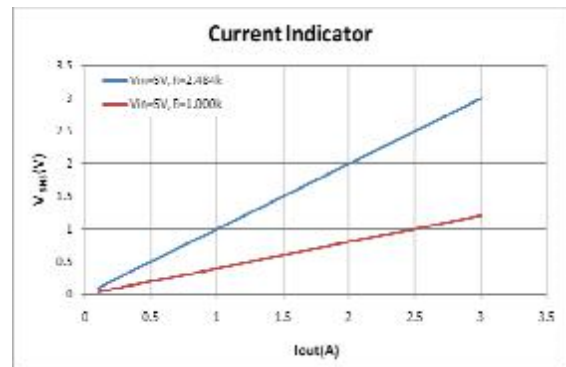

Fig. 1 Relationship between VISNS and IOUT with different RSNS
SY6818 has a current indicator pin ISNS with very high accuracy. It is easily to monitor the current flowing through the power switch by reading the voltage on ISNS directly. The indication function is shown in (2). The voltage rating of this pin is 6V and SY6818 has a default current limit around 5A internally. Therefore, it is recommended strongly not to use an indication resistor too large, as shown in (3). When the current exceeds the default current limit, the power FET switches off and restarts automatically. The accuracy higher than 5% is achieved at 1A output current and that higher than 7% is achieved at 0.5A output current, as shown in Fig. 1 and Fig.2 respectively.